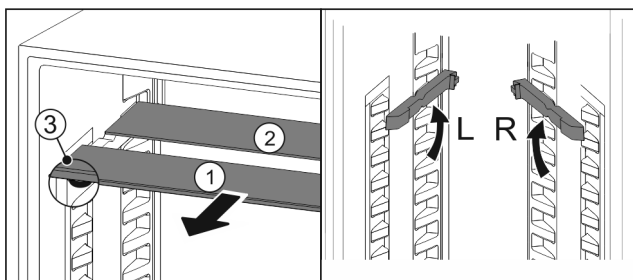

Fig. 94
- Pull the glass panels out Fig. 94 (1) from the front, one at a time.
- The glass panel Fig. 94 (1) with the trim strip is at the front.
- The stops Fig. 94 (3) point downward.